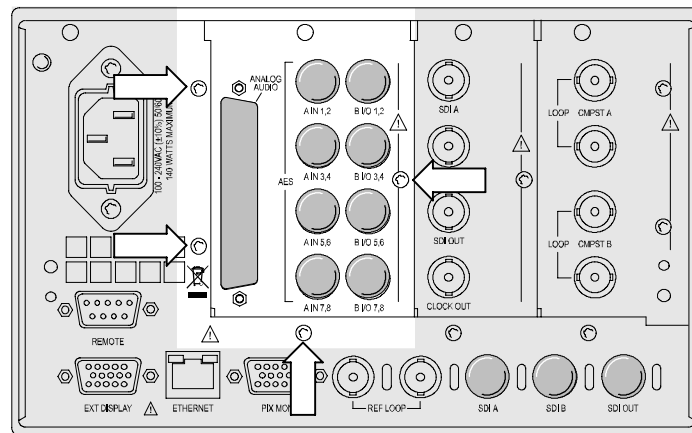

Figure 10: Removing the audio-options rear panel screws
1. Remove the four screws from the audio-options rear panel. See Figure 10. Save the screws for reinstallation.